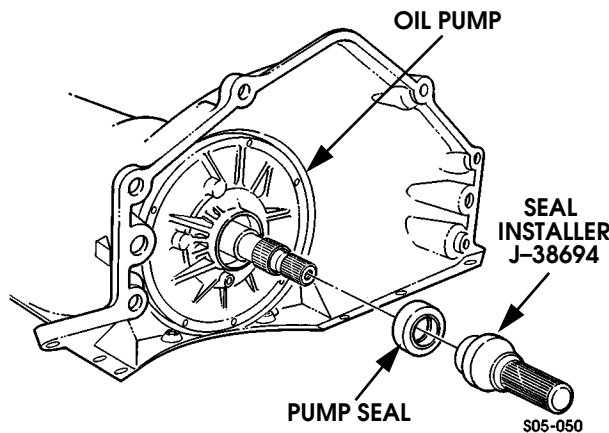

Figure 5-38: Oil Pump Seal Installation
6. Install seal with tool J-38694 (Figure 5-38).